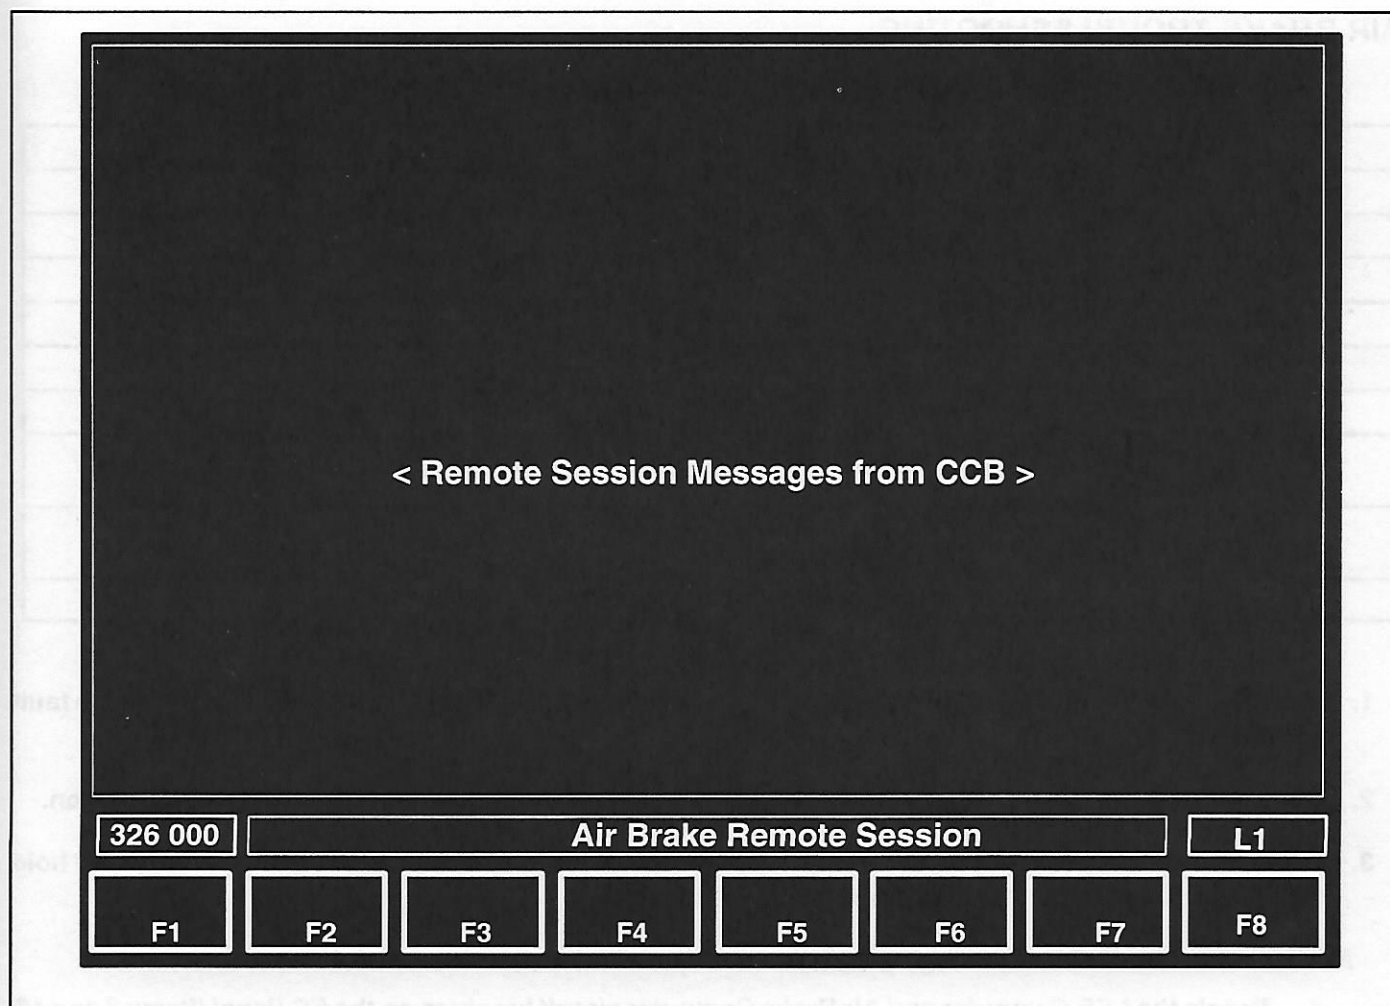

FIG. 40. ELECTRONIC AIR BRAKE REMOTE SESSION SCREEN (326 000). E-43346.
4. Pressing key position F6 (**Remote Session**) will display screen 326 000 (Fig. 40). This key is only active if the locomotive is stopped and BCP \geq 25 psi.